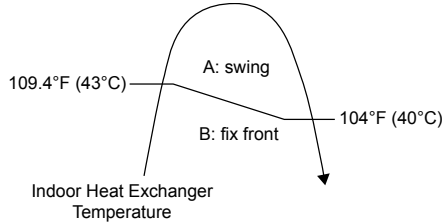

Figure 1
- Automatic vertical airflow direction can be set using remote control; the vane swings up and down within the angles as stated above. For heating mode operation, the angle of the vane depends on the indoor heat exchanger temperature as Figure 1 below. It does not swing during fan motor stop. When the air conditioner is stopped using remote control, the vane will shift to close position.
- Automatic horizontal airflow direction can be set using remote control; the vane swings left and right within the angles as stated below. For heating mode operation, the angle of the vane depends on the indoor heat exchanger temperature as Figure 1 below. It does not swing during fan motor stop.